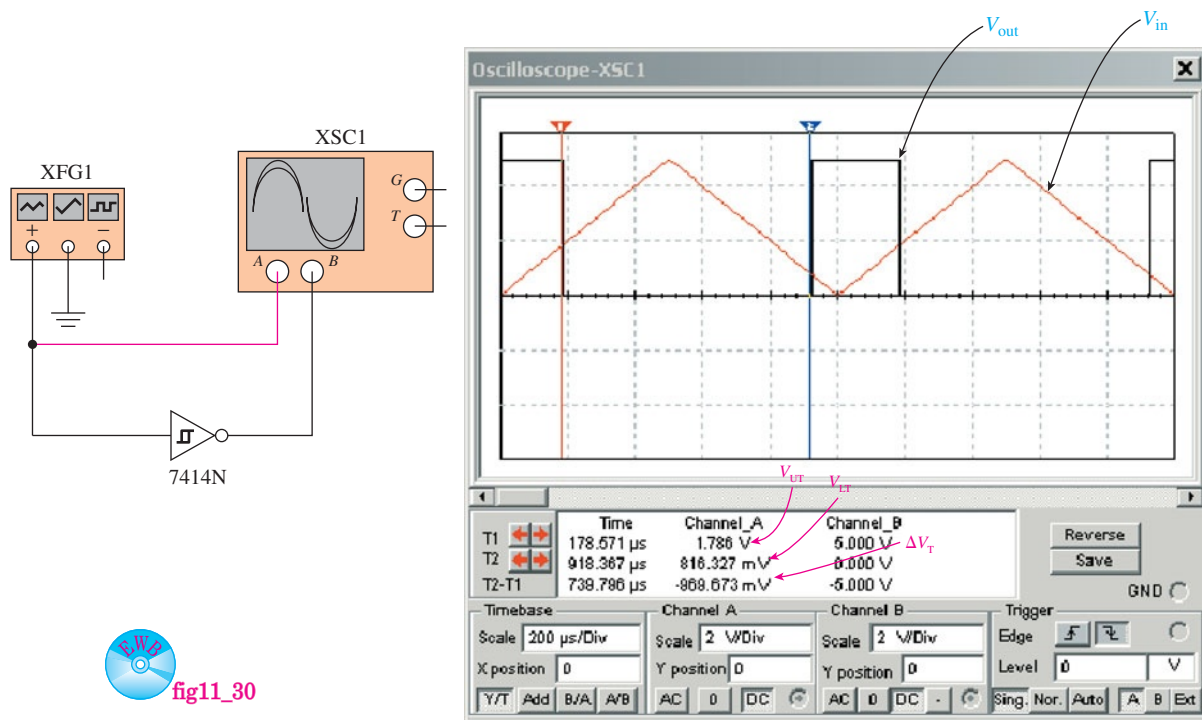

Figure P-3 Using MultiSIM[®] to determine the switching thresholds of an IC.
Several MultiSIM[®] examples and problems are included within each chapter (see Figure P-3). The textbook companion website provides all of the circuit files and instructions needed to solve each circuit. There are three types of problems: (1) *circuit interaction problems* require the student to change input values and take measurements at the outputs to verify circuit operation, (2) *design problems* require the student to design, or modify, a circuit to perform a particular task, and (3) *troubleshooting problems* require the student to find and fix the fault that exists in the circuit that is given.